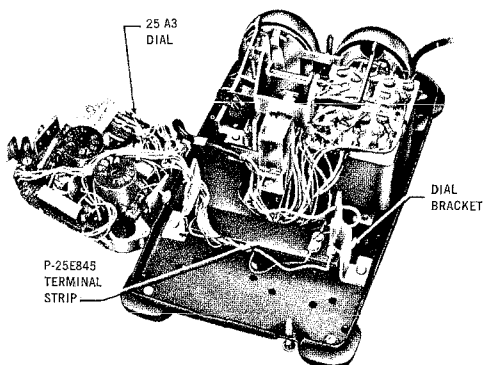

Fig. 5 — 1500 Telephone Set, Interior
4.08 A modified dial bracket and terminal strip associated with the 25-Type Dial in the 1500 Telephone Set, is shown in Fig. 5.